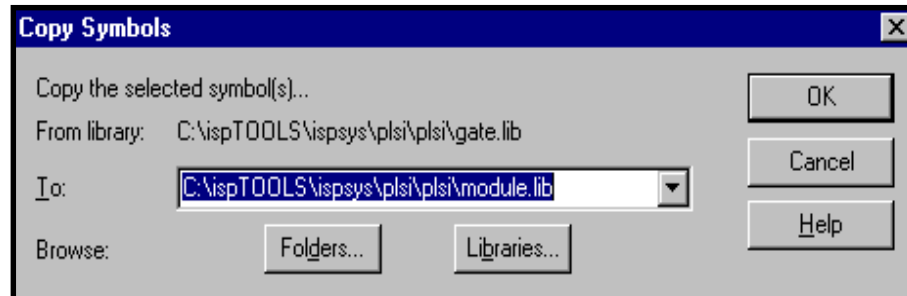

Figure 6-8. Copy Symbols Dialog Box
3. Select **Edit** ⇒ **Copy Symbol(s)**. The Copy Symbols dialog box appears (Figure 6-8).